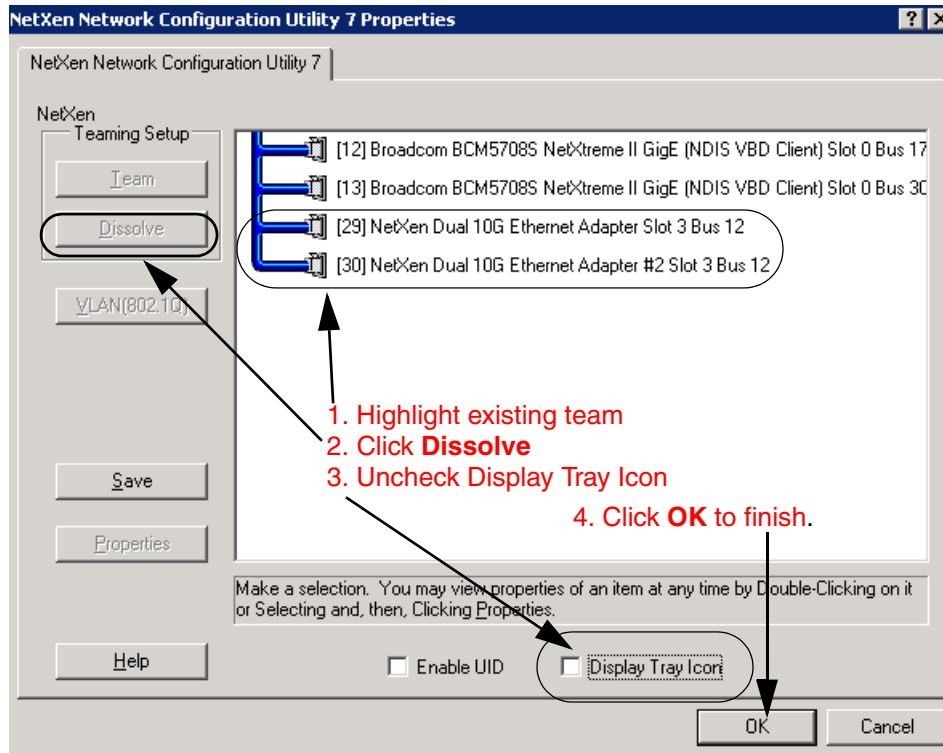
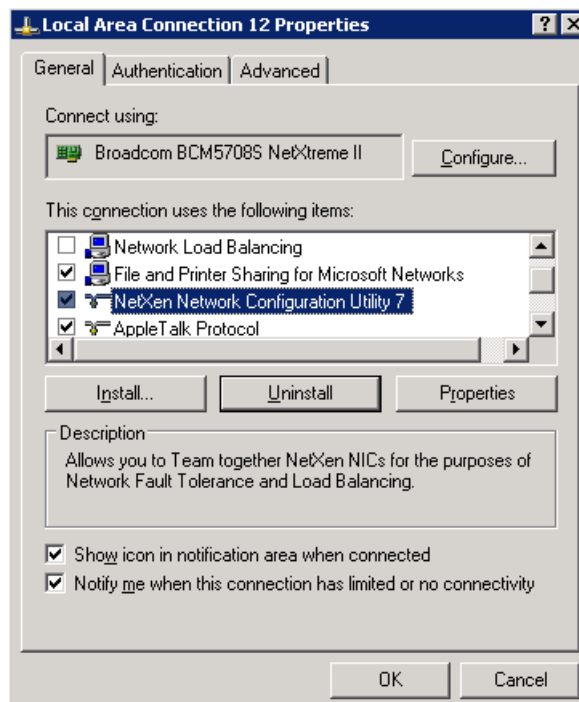

Figure 5-20 Removing the existing configuration
Figure 5-21 General tab window
1. From the NetXen Network Configuration Utility 7 window, highlight the NetXen Dual 10G Ethernet Adapters in Figure 5-20. Click **Dissolve**. Uncheck the Display Tray Icon. Click **OK**. Open the Properties page of one of the NetXen adapters. Highlight the NetXen Network Configuration Utility 7 in the Protocol list and click **Uninstall**. See Figure 5-21.